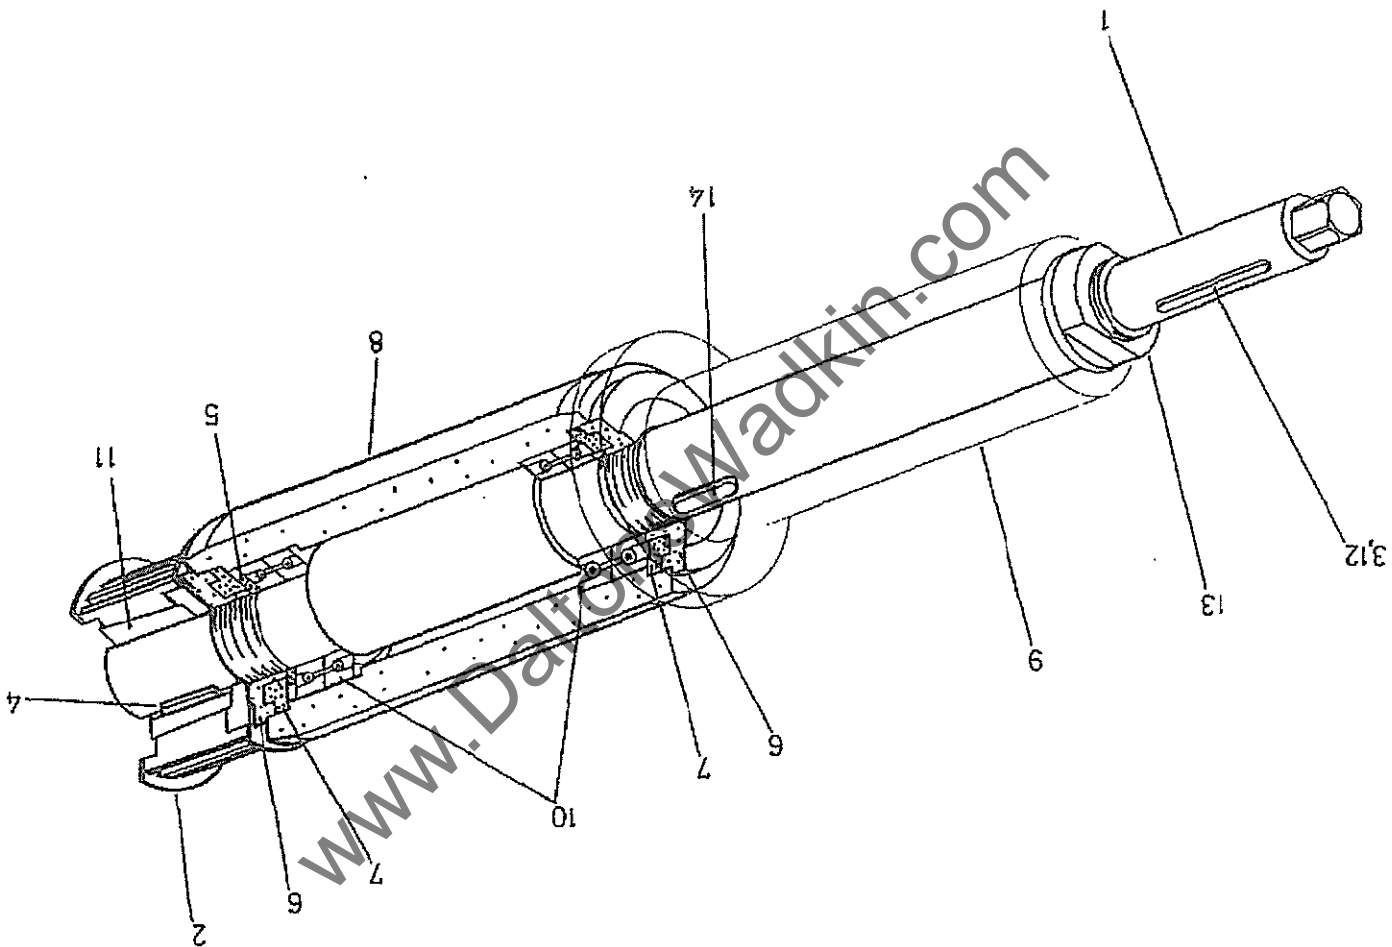
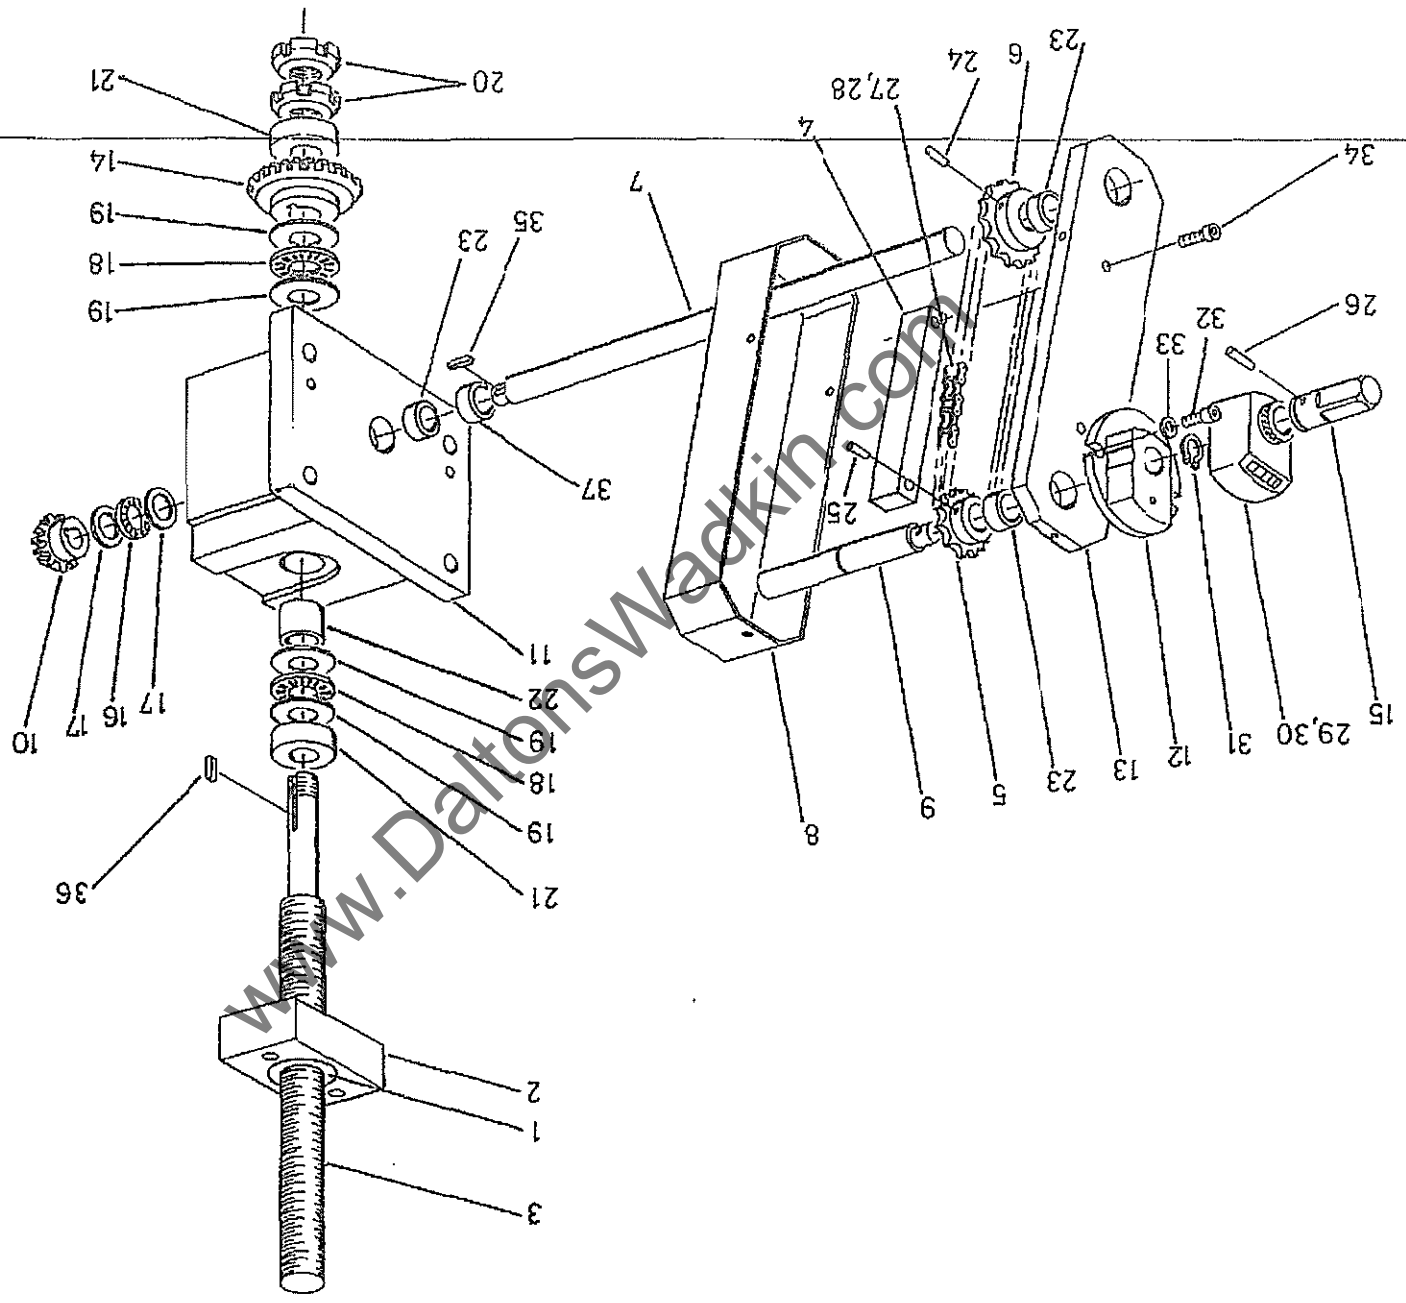

FIG 2 SPINDLE UNIT (TIMMING BELT)
FIG 3 SPINDLE RISE AND FALL
Changing cutterblock spindle bearings (Fig.1, Fig.2).
- FIG 2 SPINDLE**
- b. Oil thread and point of grub screws, or thread and head of cap screws. Place screws (1) loosely in threaded holes in hub of pulley.
- c. Clean shaft, fit hub and bush to the shaft as a unit. Locate in position using key way (4). On fitting, the bush will nip the shaft first, then hub will be drawn onto bush.
- Replacing and tensioning drive belts (Fig 3)**
- 1) Relieve the tension on the drive belts by slackening off the six locking bolts (1).
- 2) Release adjusting screw locknut (2) and turn screw (3) to raise motor. With the pulley centres now reduced the belts may be removed.
- 4) Tension belts using screw (3) lock in position with locknut (2).